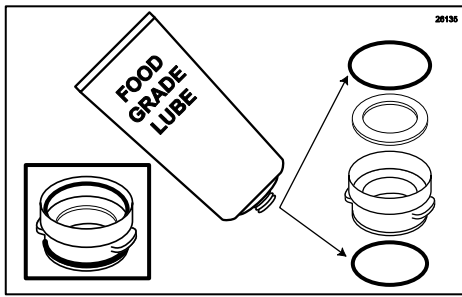

Figure 91
7. Lube the black o-rings and install them with the white gasket in their respective positions on the Spout Adapter. (See Figure 91.)